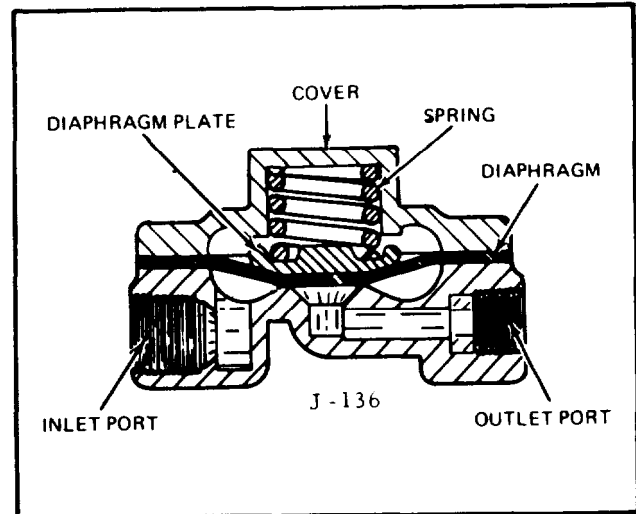

FIGURE 12-16.
- (1). Broken spring.
- (2). Ruptured diaphragm.
- (3). Sprung or cracked baffle.
- (4). Rough or pitted seats ,in the cover or in the valve body.
c. Correct items (1) through (3) above by installing the repair kit. if the valve body or cover is pitted or scored, replace the complete unit.
**12-61. PRESSURE HOLDING VALVE (see figure 12-16).**